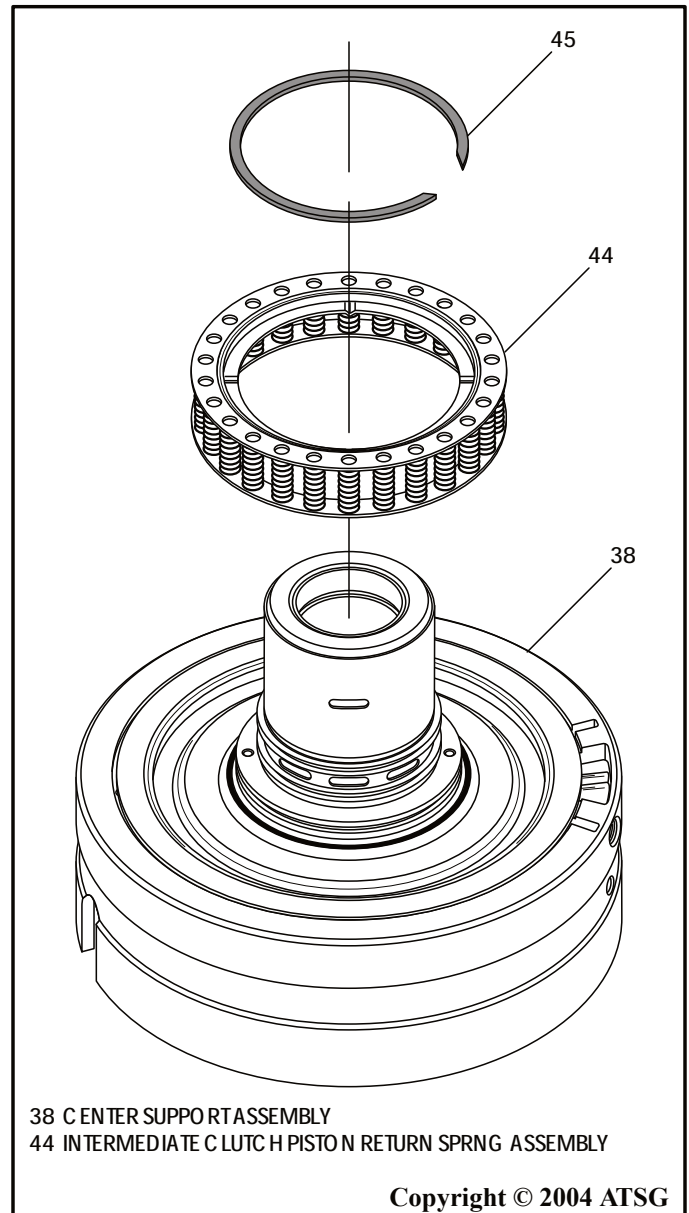

Figure 112
7. Install the intermediate clutch piston return spring in direction shown in Figure 112.